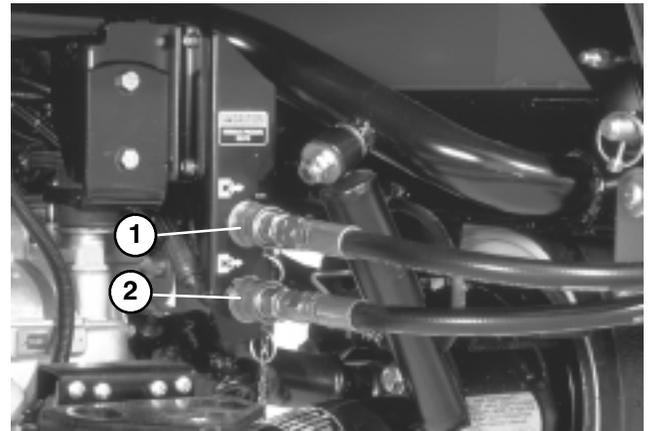

Figure 11
2. Clean dirt from quick couplers (Fig. 11) before connecting. Dirty couplers can introduce contamination to the system. After cleaning, attach both quick couplers on the topdresser to the Workman. The hoses are marked “A” and “B”, match them to the quick couplers when installing. Assure both quick couplers are full engaged.